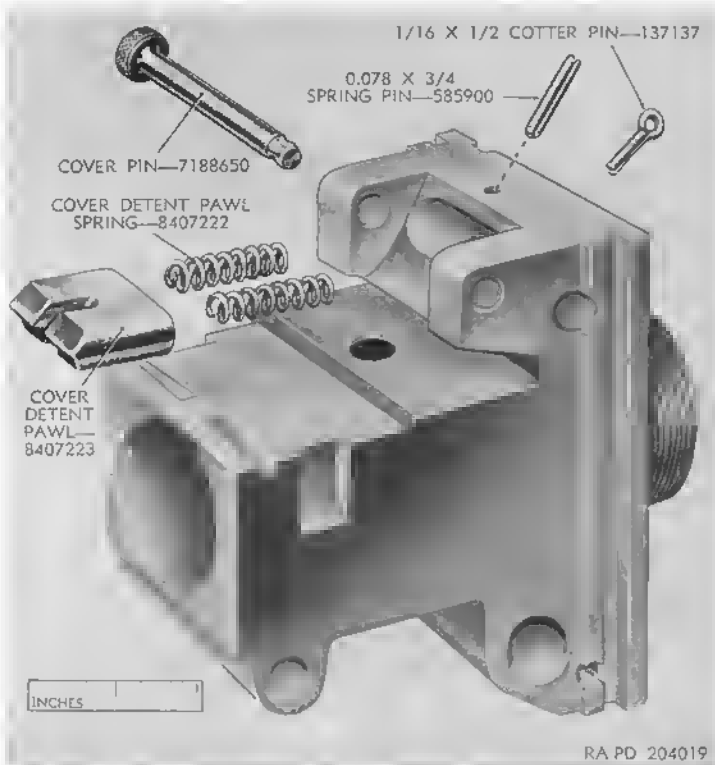

Figure 38. Cover detent pawl group—exploded view.
- (3) To remove lock, drive out the lock retaining pin, as both ends are staked. Slide the lock laterally from the rear guide, being careful not to lose the lock plunger and plunger spring.
j. *Cover Detent Pawl Group.* To disassemble the cover detent pawl group (fig. 38), follow the instructions given in TMI 9-2012. Use enl. .30 cover detent pawl drift 8407288 (fig. 6) to remove the 0.078 x $\frac{3}{4}$ spring pin from the trunnion block and cover detent pawl.